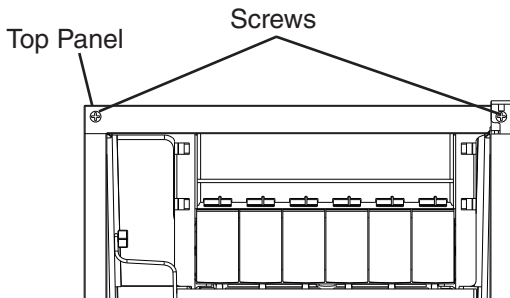

Fig. 11
- Contact your local distributor to purchase Hoshizaki Kit HS-0229. The kit contains "hinge (A)-left."
- Remove the 2 screws securing the top panel, then lift it off. See Fig. 11.